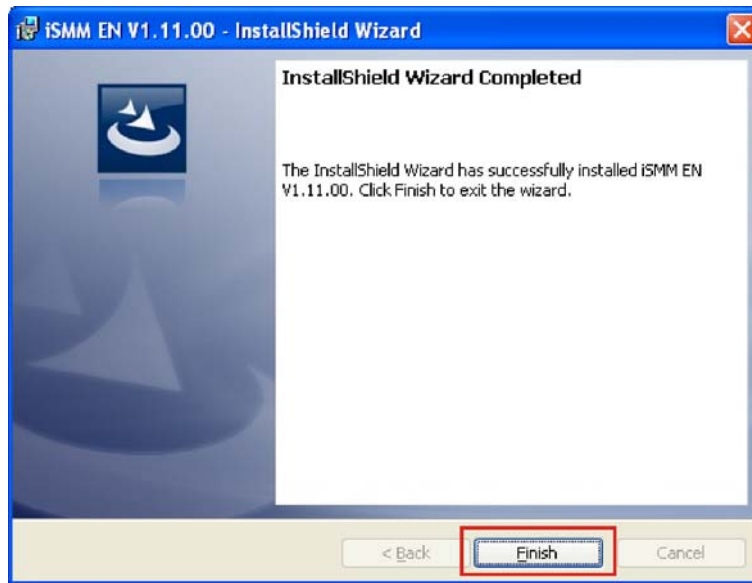

Figure 7-36: iSMM InstallShield Wizard Complete
Step 20: The InstallShield Wizard Completed appears when the drivers are finished installing. (Figure 7-36)
Step 21: Click **FINISH** to exit the installation program.(Figure 7-36)